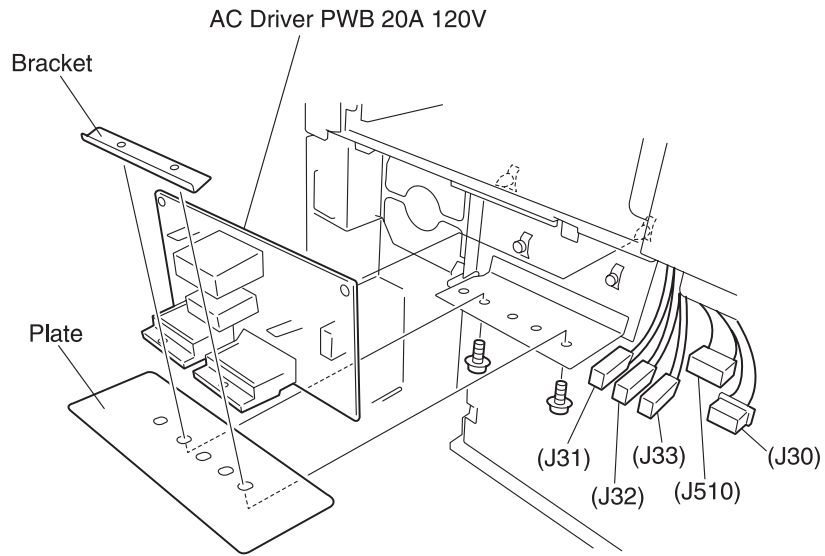
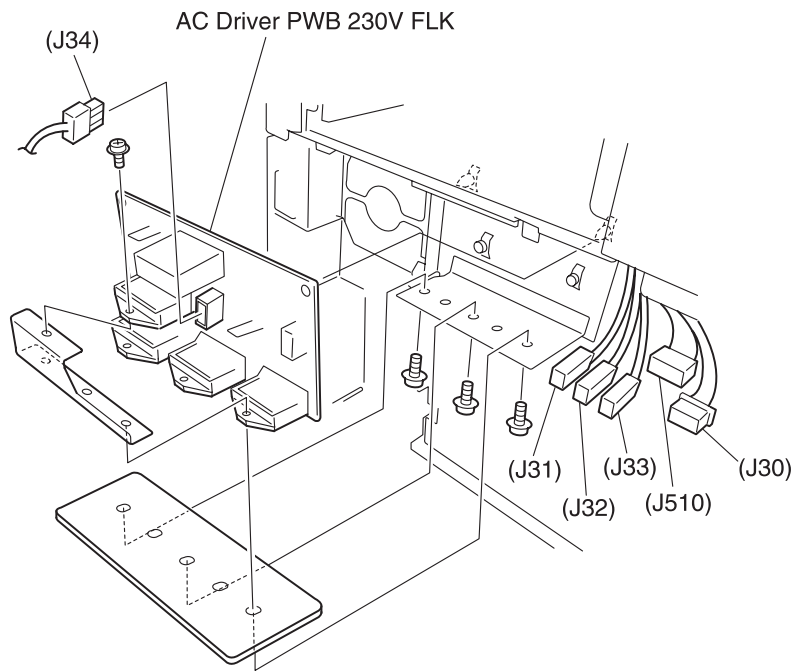

Figure 1
Figure 2
3. Refer to the appropriate Figure 1 or Figure 2 and remove the screws securing the Plate, Bracket, and AC Driver PWB to the frame and remove the Bracket and the Plate.